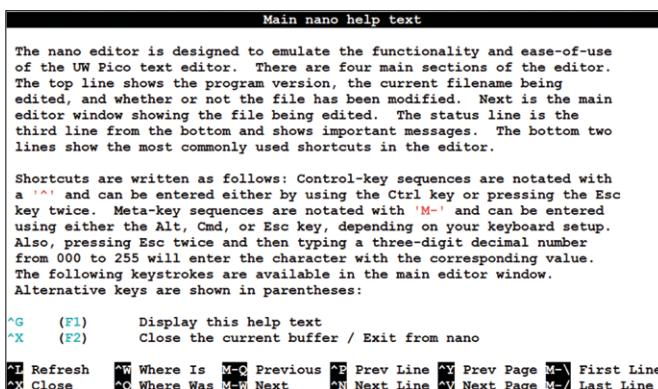

Figure 5.3: Example help screen.
- To get help on using the nano editor, enter **Cntrl+G**. An example help screen is shown in Figure 5.3. Enter **Cntrl+N** to display the next page, and **Cntrl+P** to display the previous page. Enter **Cntrl+X** to close the help screen.